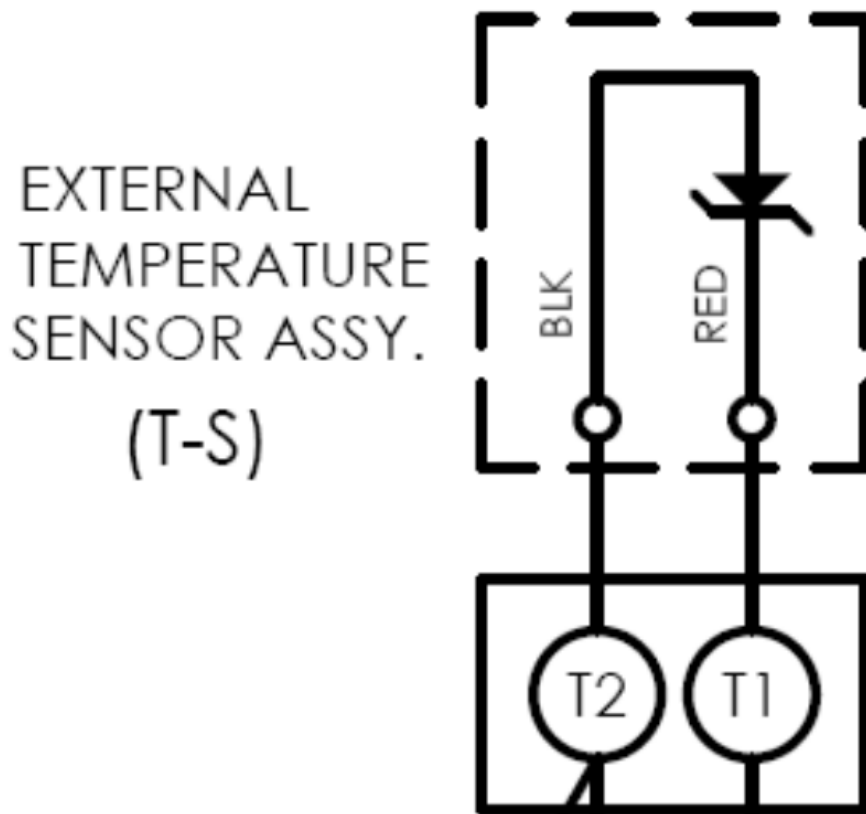

Figure 2 – External Temperature Compensation Connection (A12B Chargers Only)
2. Connect the black lead of the external probe to the other end of terminal T2, and the red lead to the other end of terminal T1. Refer to Figure 2.